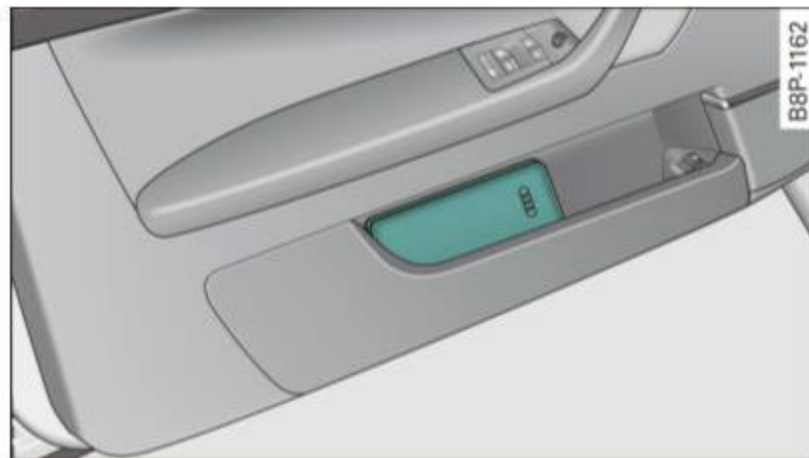

Fig. 123 Slot for Owner's literature
- Always store the owner's literature in the compartment provided for that purpose ⇒ fig. 123. ■